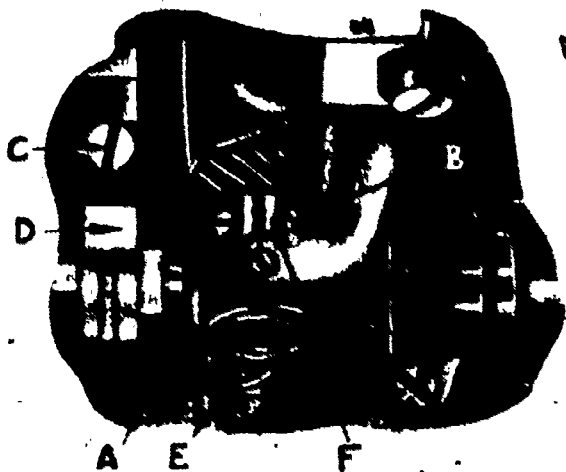

Figure 14. Underneath View Showing Hook Saddle, Hook Driving Pinion, and Feed Dog Adjustment.
12. Remove screws A and B, figure 14 in hook driving pinion.